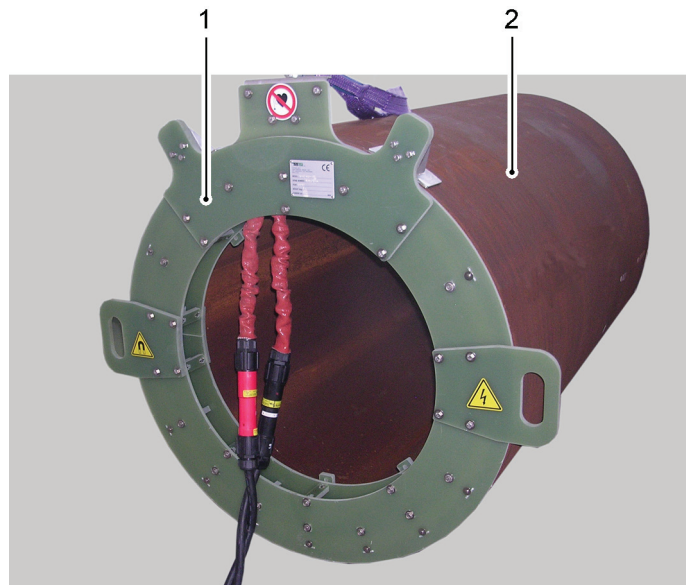

Figure 6.41 - Positioning of the internal ring coils onto the pipe
- 1) By using the motor vehicle mechanical arm, lower the internal ring coils (see Figure 6.41/1) in correspondence with the pipe (2) to be treated.
- 2) Fit the internal ring coils (1) onto the pipe (2), up to stop.